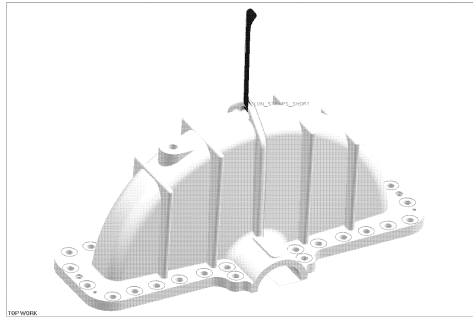

Figure L-1. Case Upper-Half Removal
- c. Using a hoist and center eyebolt at the top of the upper case half, lift turbine cover slowly and carefully so as to avoid damaging the rotor inside. Refer to Figure L-1 *Case, Upper-Half, Removal*.